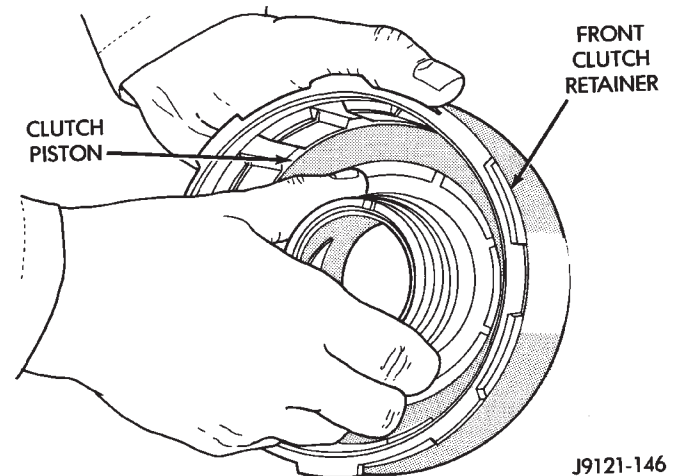

Fig. 56 Front Clutch Piston Installation
(1) Soak clutch discs in transmission fluid while assembling other clutch parts.
(2) Install new seals on piston and in hub of retainer. Be sure lip of each seal faces interior of clutch retainer.
(3) Lubricate lips of piston and retainer seals with liberal quantity of Door Eze, or petroleum jelly. Then lubricate retainer hub, bore and piston with transmission fluid.
(4) Install clutch piston in retainer (Fig. 56). Use twisting motion to seat piston in bottom of retainer. **Do not attempt to push the piston straight in. This could fold the seals over causing leakage and clutch slip.**
(8) Install piston spring in retainer and on top of piston (Fig. 56). Concave side of spring faces up as shown.